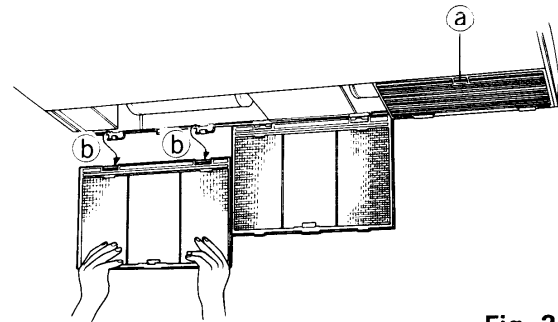

Fig. 2
- 2 ) Raise the suction grille lightly and shift it in the direction of the arrows (b) to remove it from the hooks. Fig. 2